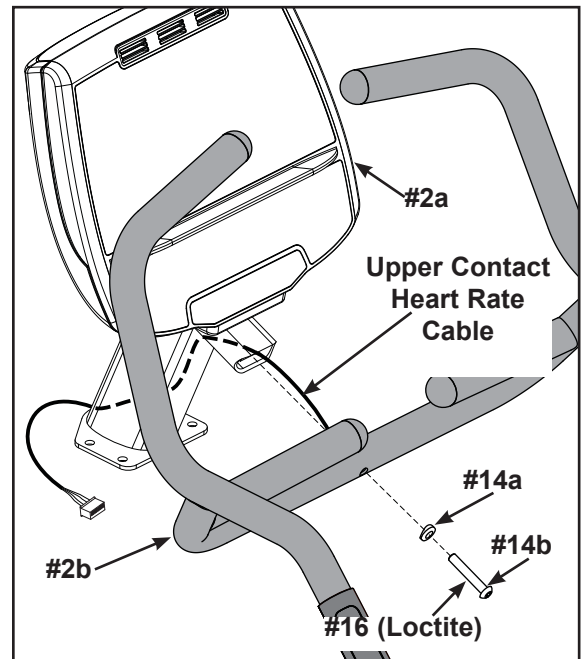

Figure 4 (750A)
- A. Locate the console assembly (#2a), handrail assembly (#2b), saddle washer (#14a) and one BHSCS .375-16 x 2.25 SS (#14b). See Figure 4.
- C. Thread upper contact heart rate cable through the console mount. See Figure 4.
- D. Attach the console assembly (#2a) to the handrail assembly (#2b); using a 7/32" Allen wrench, secure with one saddle washer .390 ID x .750 OD x 6 (#14a) and one BHSCS .375-16 x 2.25 SS (#14b). See Figure 4.